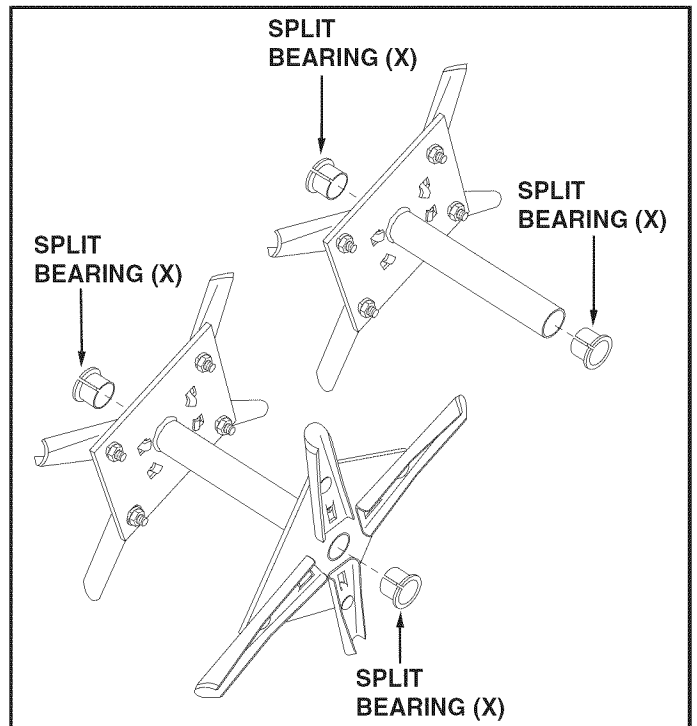

FIGURE 2
- Push split plastic bearings (X) into both ends of all single and double spool assemblies. See figure 2.